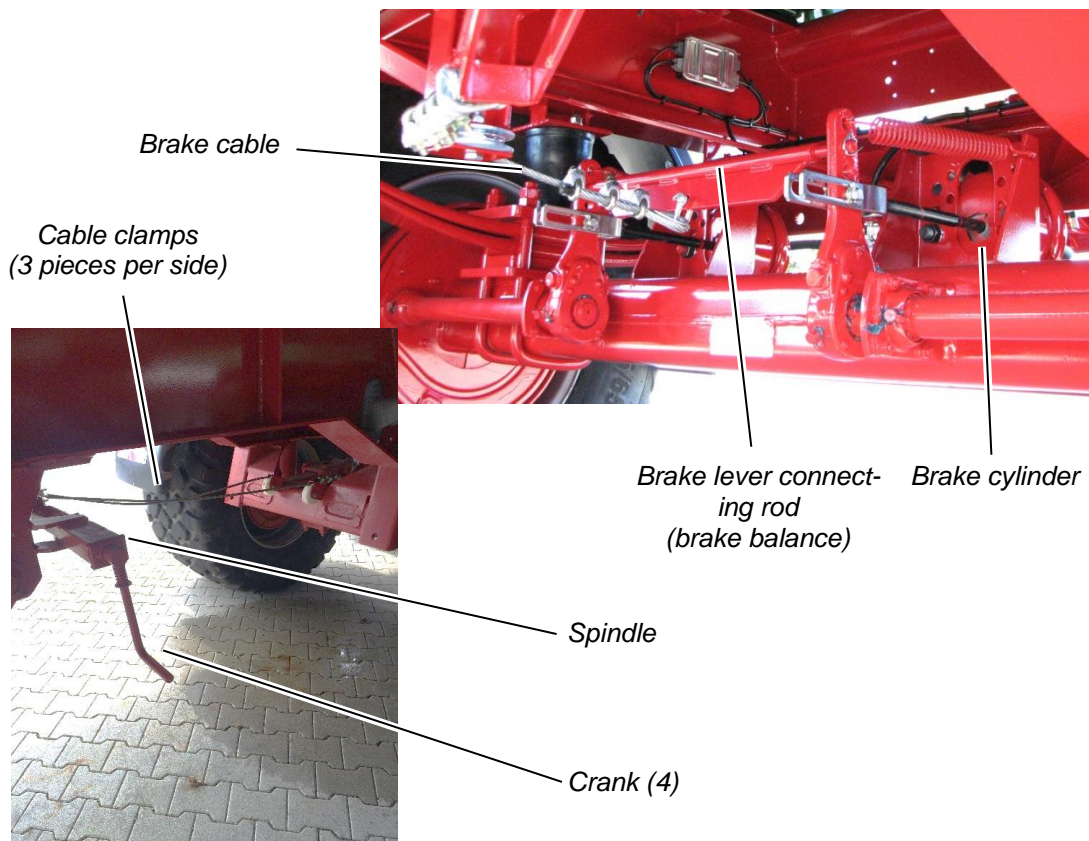

Figure 60: Parking brake on the rear axle
- ⇒ Release the 3 cable clamps on one side (see Figure 60).
- ⇒ Screw the 3 cable clamps in again tightly (see Figure 60, page 137).
- ⇒ Loosen all 6 cable clamps (see Figure 60) and then reset the 6 cable clamps.
- ⇒ Screw all 6 cable clamps in again tightly (see Figure 60, page 137).
- ⇒ Screw all 6 cable clamps in again tightly (see Figure 60, Page 137).